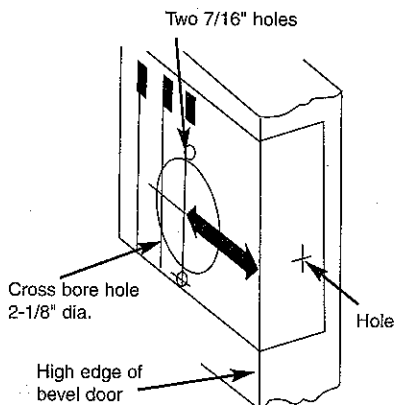

Figure 1
- 1** Tape the enclosed template to the edge of the door at the desired height (typically 42" above the finished floor). Use a straight-edge and level to ensure it is placed perfectly on the door. The template should be placed on the high side of the door bevel (the side that faces out as the door swings away from the frame). FIG 1
- 1** Install the latch into the hole in the door's edge and secure it with the two 1/2" wood screws provided. Be sure the bevel of the latch is facing the door frame for proper operation. FIG 1